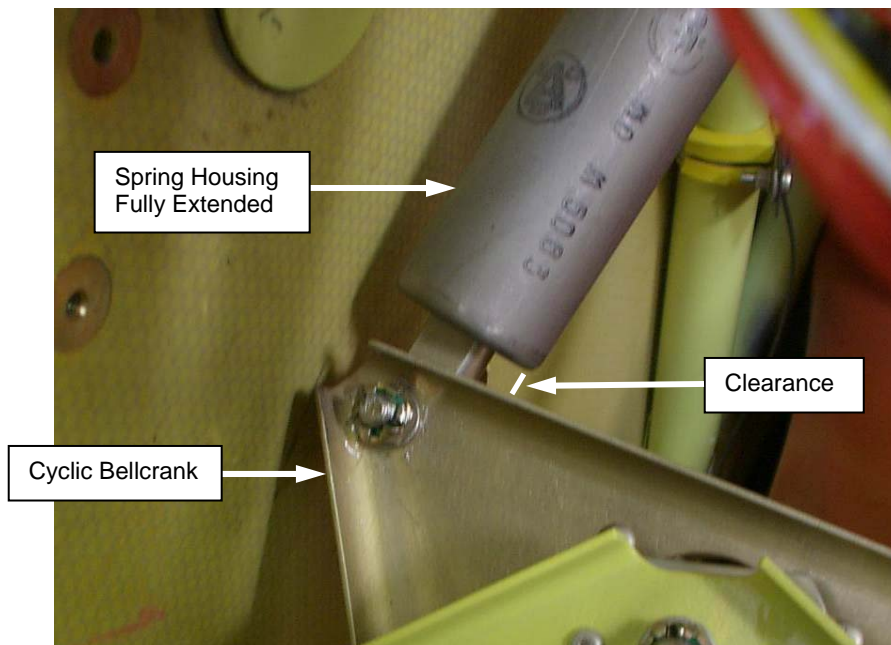

Figure 4: Spring Housing and Cyclic Bellcrank Clearance
3. Verify there is clearance between the end of the spring capsule and the bellcrank (Figure 4).